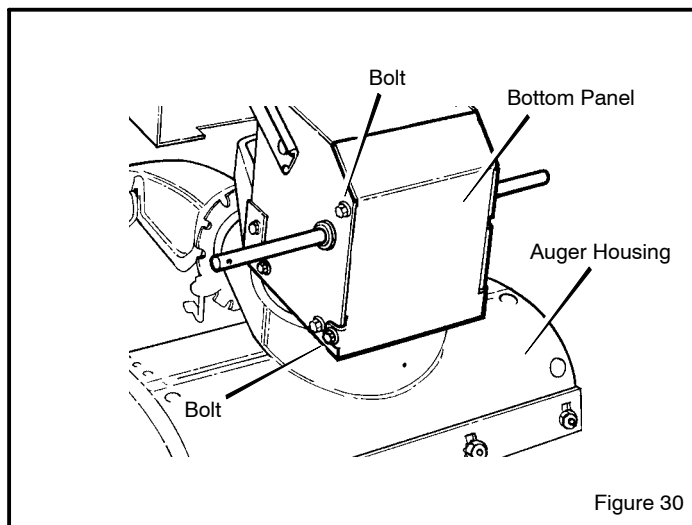

Figure 30
2. Loosen the **bolts** on each side of the **bottom panel** (see Figure 30).
18. Install the **bottom panel** (see Figure 30).
13. Install the **bottom panel** (see Figure 30).